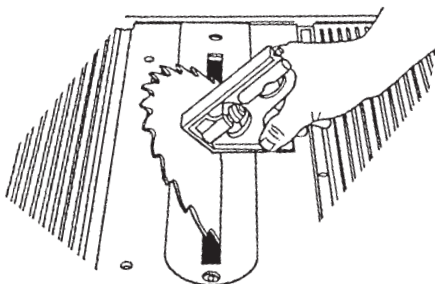

Figure B-70
37. Remove the blade from the combination square and place the square against the saw blade and the worktable, as shown in Figure B-70. Make sure the combination square doesn't rest on the table insert.